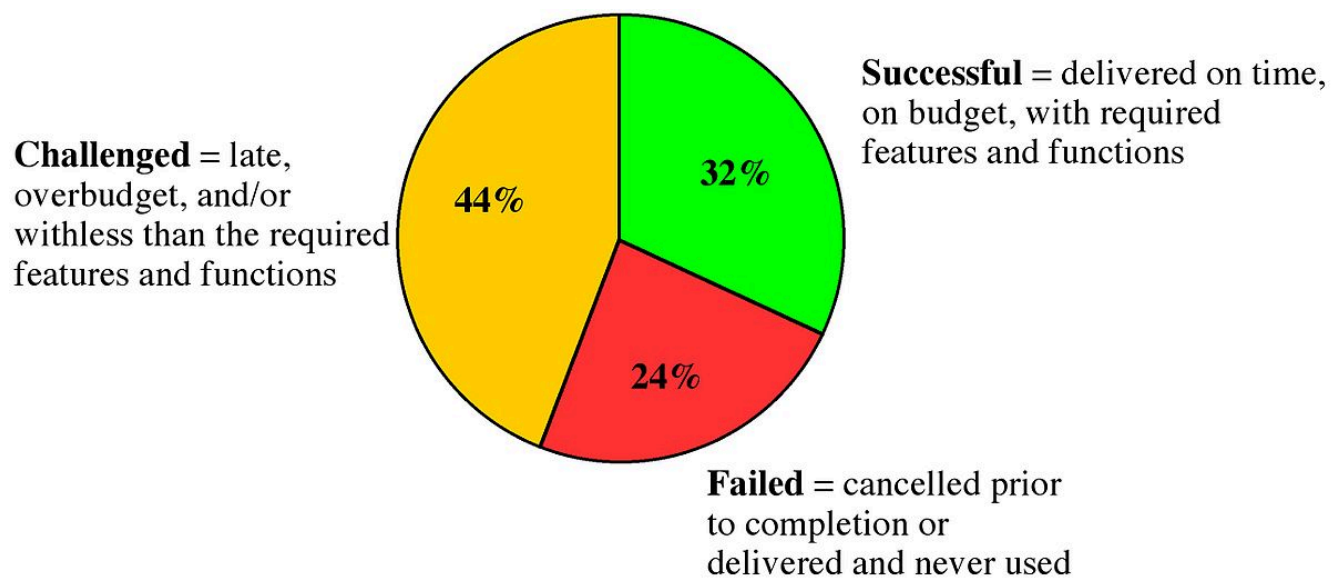

Figure 2.1: Summary of 2009 Standish Group CHAOS report.
In the United States, more than \$250 billion is spent each year on information technology (IT) application development in approximately 175,000 projects. The Standish Group (a Boston-based leader in project and value performance research) released the summary version of their 2009 CHAOS Report that tracks project failure rates across a broad range of companies and industries (Figure 2.1).